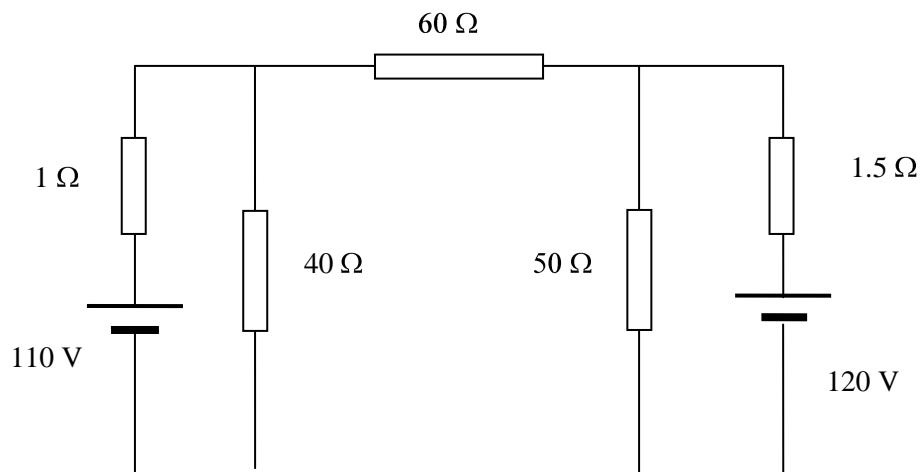

Fig Q1
1. For the network shown in Fig.Q1 calculate each of the following:
- (a) the current drawn from each battery; (8)
- (b) the potential difference across the $40\ \Omega$ resistor and across the $50\ \Omega$ resistor; (4)
- (c) the power dissipated in the $60\ \Omega$ resistor. (4)